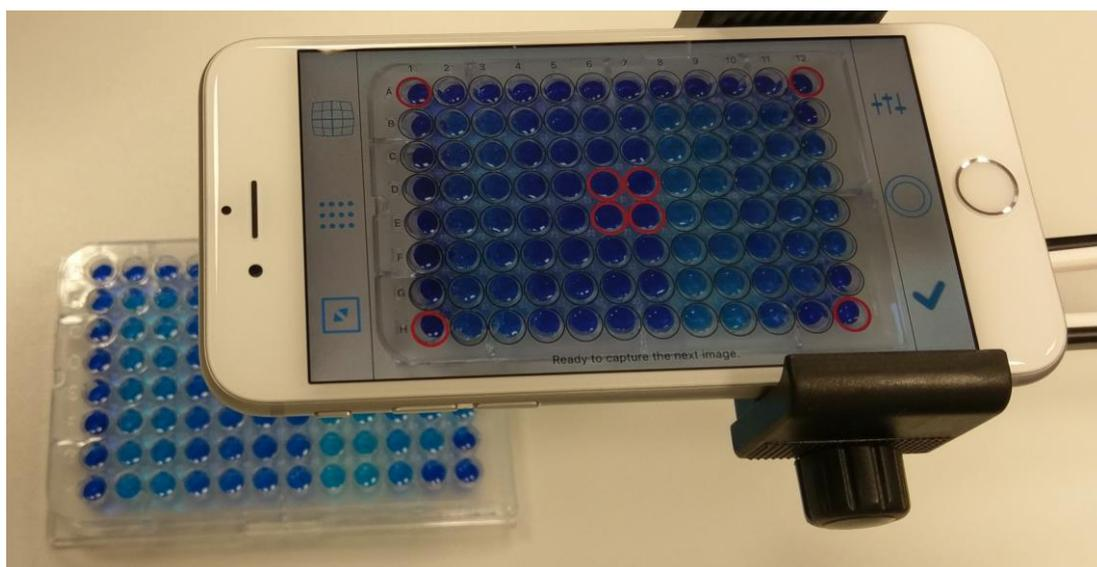

Figure 2: Camera Calibration.
This step setups the capturing so that the acquired images are of good quality, enabling convenience and quality of the microplate image analysis. The tools are provided in the *Camera* page (Figure 2).
- First, position the (smartphone) camera or the microplate in such a way that in the camera screen (Figure 2), the four edges of the microplate appear (almost) parallel to those of the calibration grid (the black rectangle).
If the grid has been aligned with the microplate (Figure 2) during calibration, the captured microplate images could be analyzed directly without having to align the grid again.